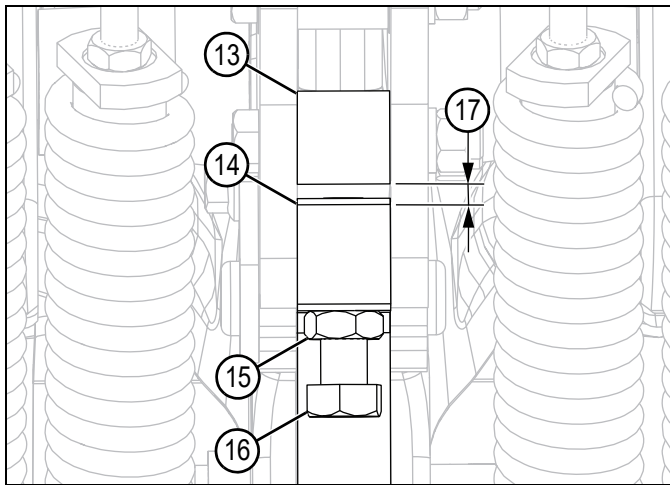

Figure 5-18: Set Bolt Setting
The AR trip linkage comes set from the factory to trip easily. Operators can adjust this setting by loosening the jam nut (15) and adjusting the set bolt (16). One full turn of this set bolt represents about 1/8 in (0.32 cm). The set bolt setting (17) is measured from the stop block (13) to the rear trip link (14). See Figure 5-18 on page 5-23.